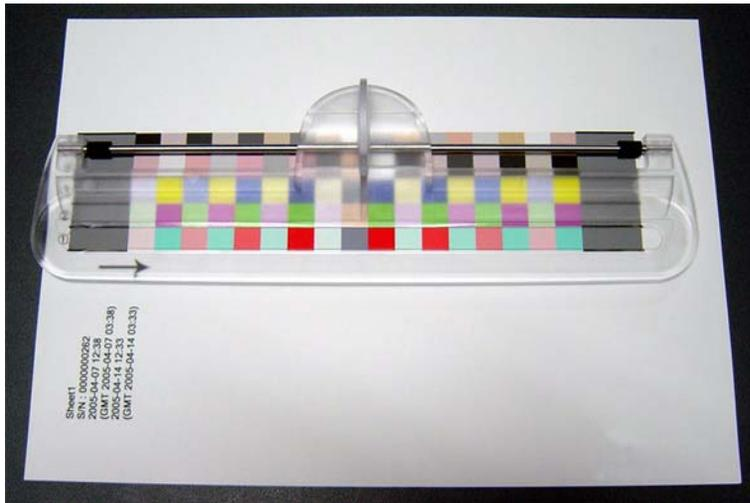

Figure 5-50. Setting the Chart and the Scanning Ruler
26. Refer to Figure 5-50, lay the chart on the black paper (or sheet) with the upper part of the chart facing left side, and set the scanning ruler onto the bottommost patch line.